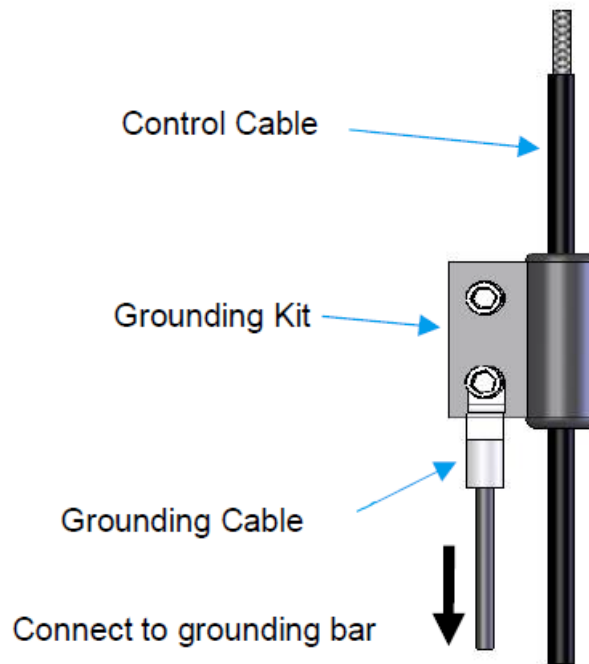

Figure 11
c) Control cables metal sheath attach to grounding kit as shown in Figure 11.